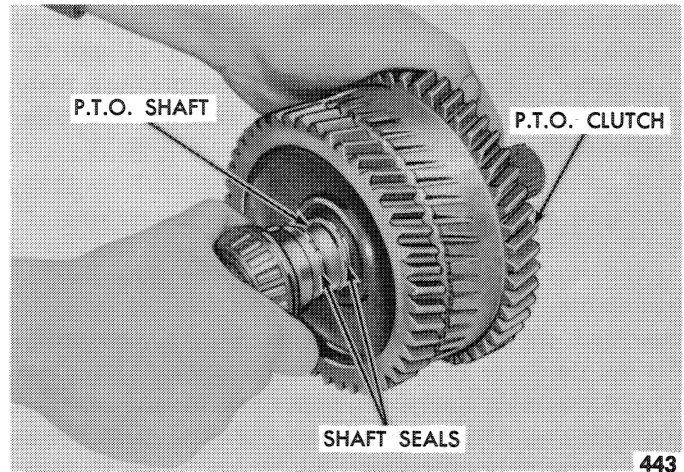

Figure 126—Installing the P.T.O. Shaft
1. On model 81 transmissions, position the thrust washer in the front P.T.O. bevel gear and install this gear in the clutch pack. Center the shaft seals and insert the P.T.O. shaft into the clutch, while holding the bevel gear, as shown in Figure 126. Install the shim, spacer, and rear P.T.O. bevel gear on the shaft and install the assembly in the transmission case.